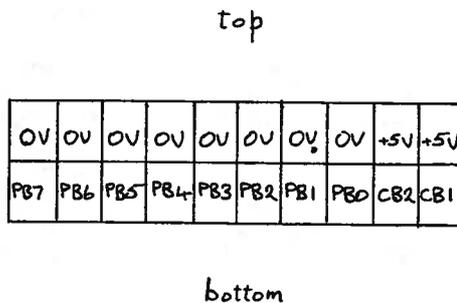

Fig. 3. User Port pin connections
- Wire up the free end of the ribbon cable to the 4mm sockets. The user port pins are shown labelled in Figure 3. Seven OV and one 5V wires should be snipped off.